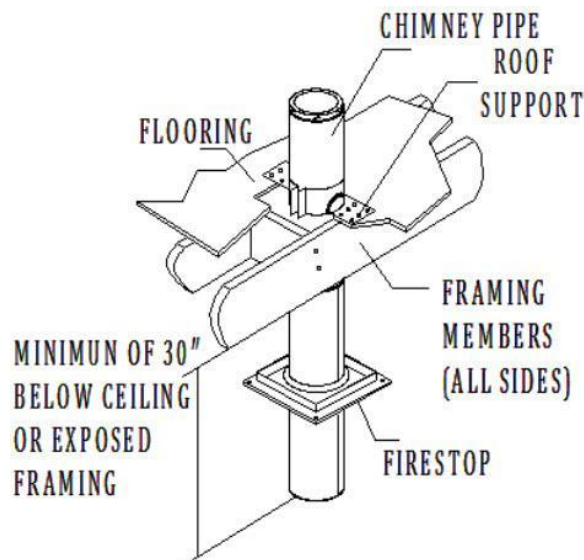

Fig 18
An Alternative Installation Location for the Roof Support Bracket: The Roof Support Bracket may be used at the bottom of a chimney installation (Fig. 18). This may be useful for some basement installations. Maintain a minimum of 2 inches of clearance to combustibles at all times. The Class A chimney must extend a minimum of 3 inches below the finished ceiling or exposed framing members. Do not extend the chimney all the way to the appliance; a stove pipe adapter and connector pipe are required to connect the chimney to the appliance collar.
2. Bolt on the Roof Support Brackets to the Roof Support Band using the supplied hardware. Attach the Roof Support Brackets to the floor joists using (4) 8-penny nails or (4) #8, 1-½" screws per side (Fig 18).